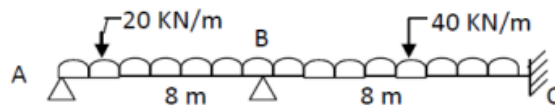

Figure.2
- 7 Analyze the beam shown in figure 2 using flexibility matrix method if the support B' sinks by 50 mm.  $E = 25 \times 10^3$  MPa,  $I = 140 \times 10^3$  cm4.